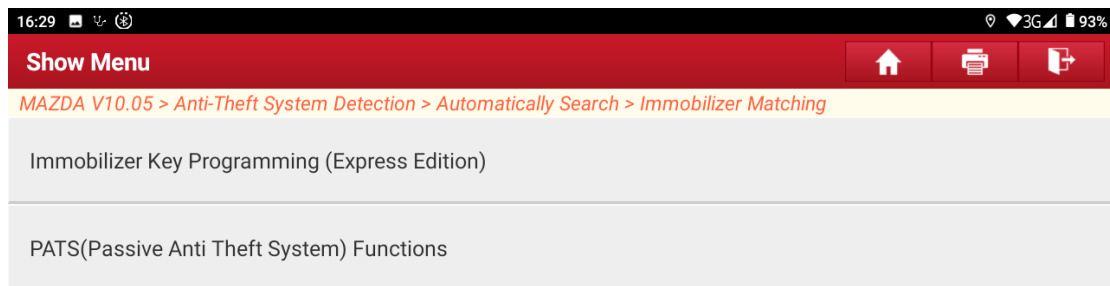

Figure A7
5. Choose [PATS (Passive Anti-theft System) Functions]. See Figure A7.